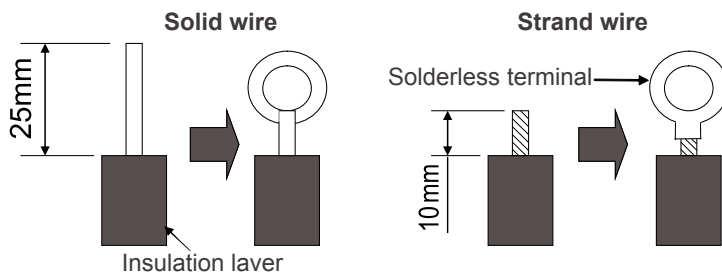

Fig.30
1. For solid core wiring (Fig.30)
2. For strand wiring (Fig.30)